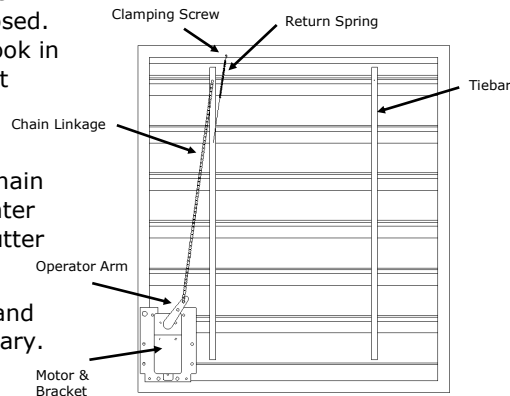
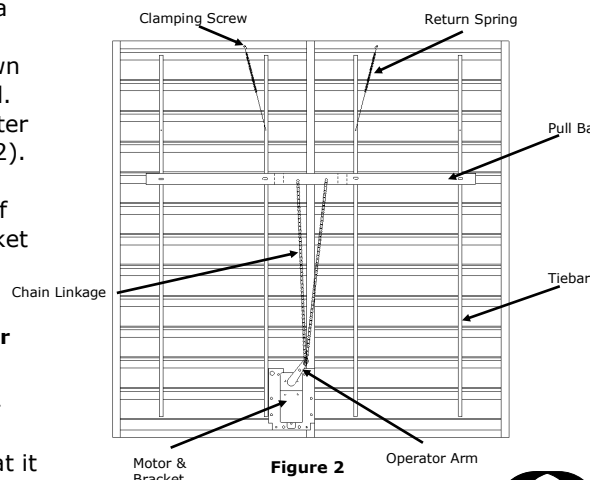
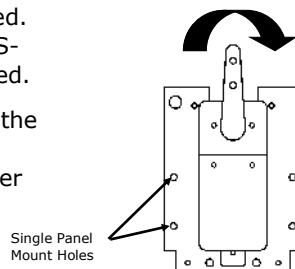
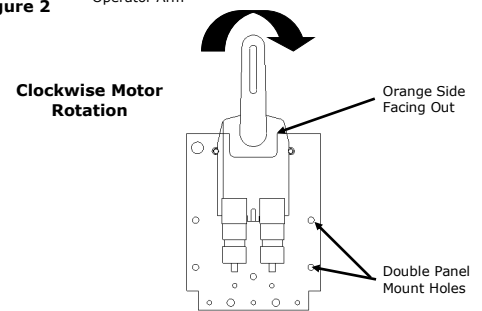

Figure 1
Figure 2
Figure 4
Figure 5
1) These shutters have two tiebars. Before mounting the shutter motor to the shutter, position the shutter motor on the bracket as shown in Figure 4 or Figure 5, depending on shutter motor model. Mount the motor and bracket to the bottom of the inside face on the back of the shutter. Holes in the shutter frame are pre-punched. Position the bracket so that it is attached to the shutter frame along both the bottom and side (Figure 1). Use the nuts and bolts provided to attach the bracket to the shutter frame.
1) These shutter models consist of two panels divided by a center rail. Before mounting the shutter motor to the shutter, position the shutter motor on the bracket as shown in Figure 4 or Figure 5, depending on shutter motor model. Mount the motor and bracket assembly to the bottom center of the outside face on the rear of the shutter (See Figure 2). Holes in the center rail and the bracket are pre-punched. Position the bracket by aligning the holes in the left side of the bracket with the holes in the center rail. Bolt the bracket to the center rail using the 1/4" nuts and bolts provided.